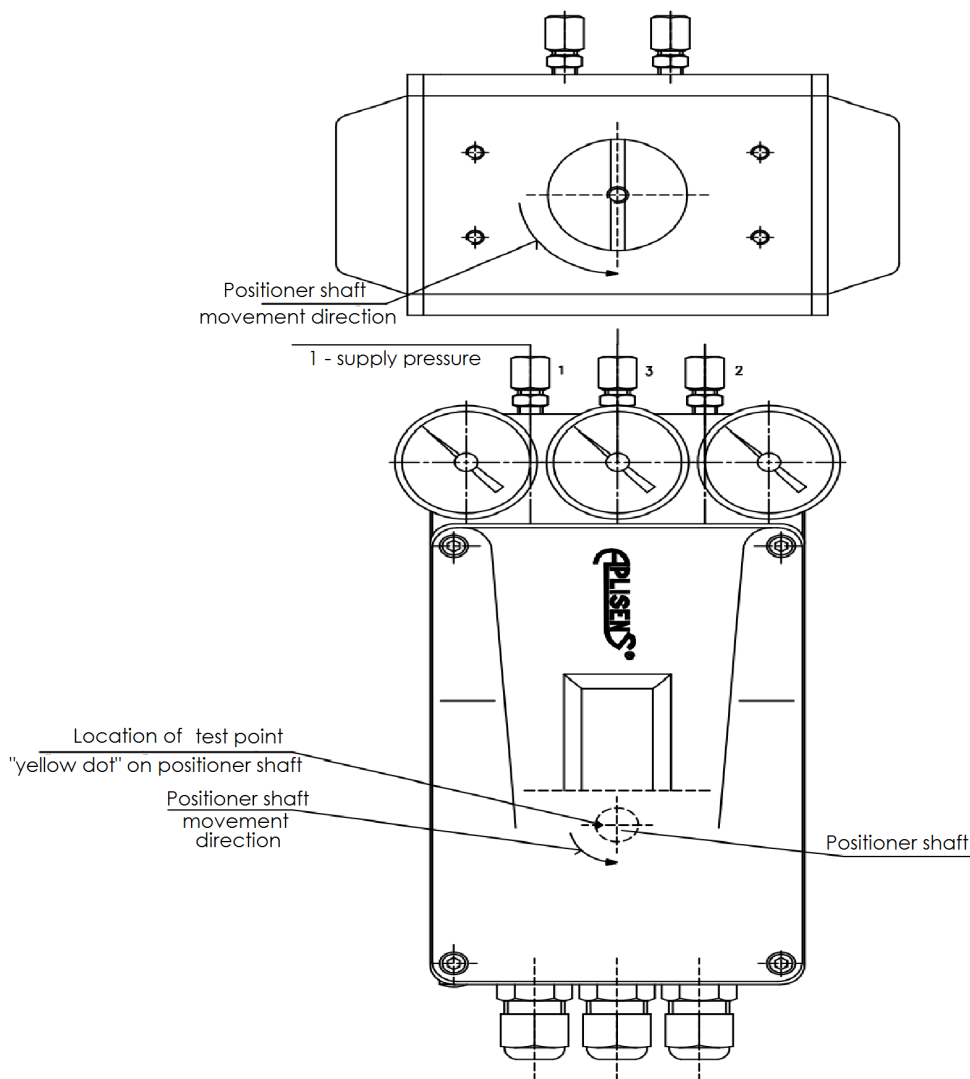

Fig.13. Assembly position of the APIS-250-... and APIS-150-... positioner in respect of one-sided or double-sided action rotational actuator.
- b) Check direction of actuator shaft and position of control point on positioner shaft (yellow colour dot on positioner shaft) – see fig. 13.